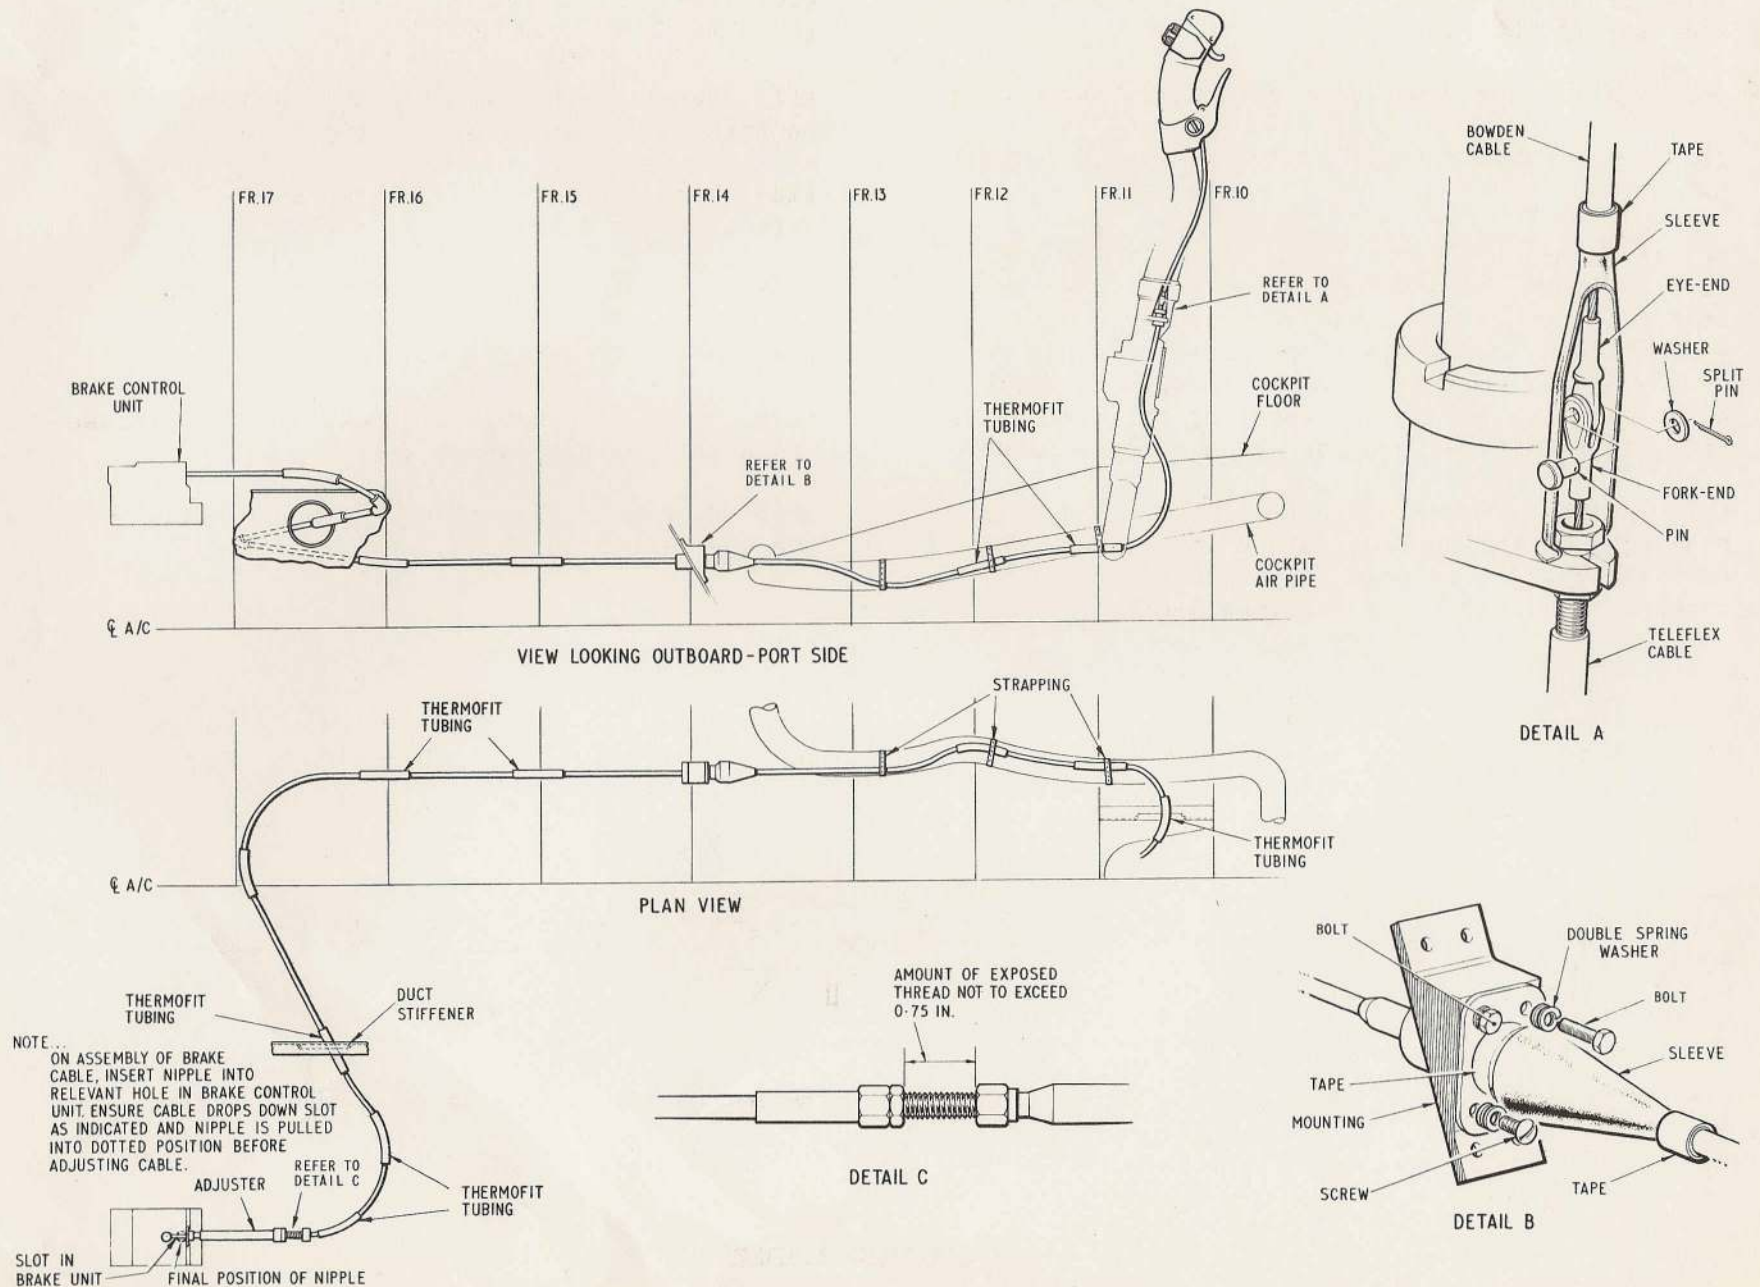

FIG.2. CONTROL CABLE ROUTEING
Cable run (fig.2)
(2) Preset the adjuster at the nipple end of the cable to give 0.75 in. of exposed thread (as in detail 'C', fig.2), and tighten the locknut. Pass the nipple end of the cable through frame 17 and refit the nipple in the brake control unit as shown in fig.2.
(3) Examine the cable run between the brake control unit and the pressure bulkhead and ensure that the positions of the rubber protection sleeves are as shown in fig.2.
(4) At the control column, reconnect the fork end of the cable with the eye end on the Bowden cable using the shackle pin, washer and a new split pin.
- (5) Tension the cable at the adjusting screw and tighten the locknut.
- (6) Refit pipes removed in para.6, sub-para. (8).
- (7) Refit cable conduit assembly removed in para. 6, sub-para. (7).
- ◀ (8) Re-strap the cable to the cockpit air pipe between frames 10 and 13 as shown in fig.2. Check the cable for free travel. Move the control column through its full range fore and aft and side to side, while ensuring that the cable loop is not strained and that the cable does not foul the balance weights or their attachment brackets and bolts. Ensure also, that the balance weight attachment bolts are fitted with their heads on the out-board side. ▶
- (9) Position the Neoprene cover over the cable pin joint on the control column and re-tape the ends as detailed in para.7. Check cable for free movement before sealing the tape knots.
- (10) Make a functional test of the brake system (Chap.6).
- (11) Refit cockpit floor panels and covers removed in para.6, sub-para.(5) and (6).
- (12) Refit the stocking at the control column base. Wire-lock the fasteners.
- (13) Close the main equipment bay starboard hatch.
- (14) Install the ejection seat.
- (15) Refit the canopy and make a cockpit pressure check to test the canopy seal.
- (16) Re-arm the ejection seat and canopy. Restore the electrical services.